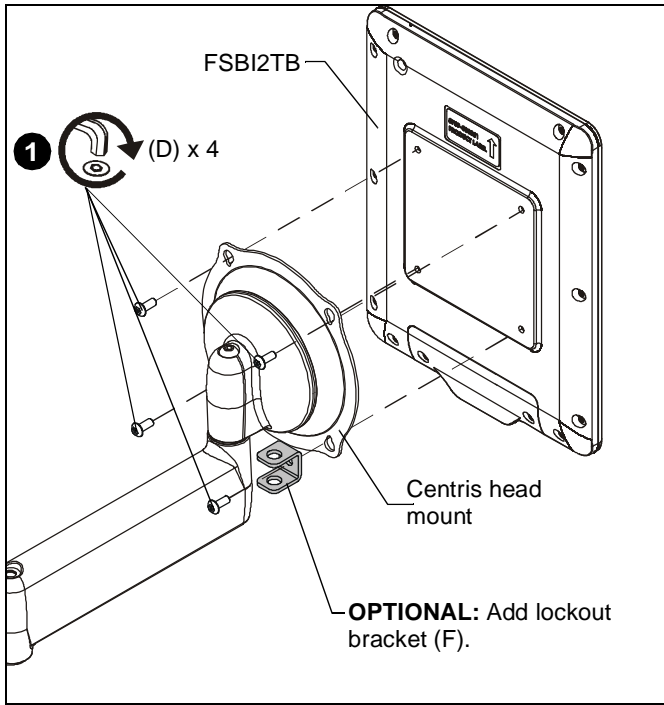
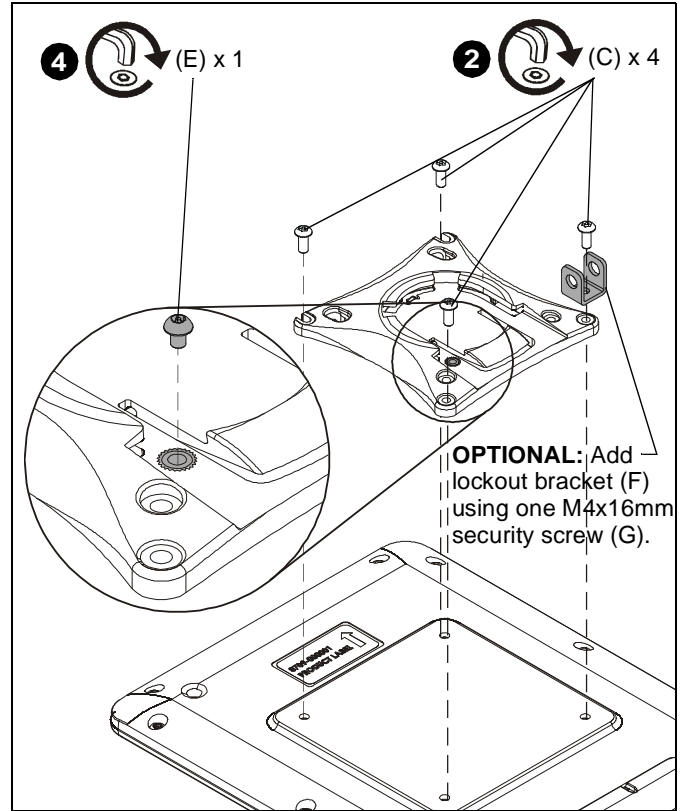

Figure 4
Figure 5
NOTE: An **optional** lockout bracket (F) may be added when attaching the FSBI2TB to either the Centris head or Kontour head mount. (See Figure 4) or (See Figure 5).
1. Attach FSBI2TB to Centris head mount using four M4x10mm button head security screws (D). (See Figure 4) Proceed to **Step 5**.
2. Attach FSBI2TB to Kontour head mount using four M4x12mm button head security screws (C). (See Figure 5)
4. Fasten one 10-24 x 1/4" button head security screw (E) into back of Kontour head mount (See Figure 5)